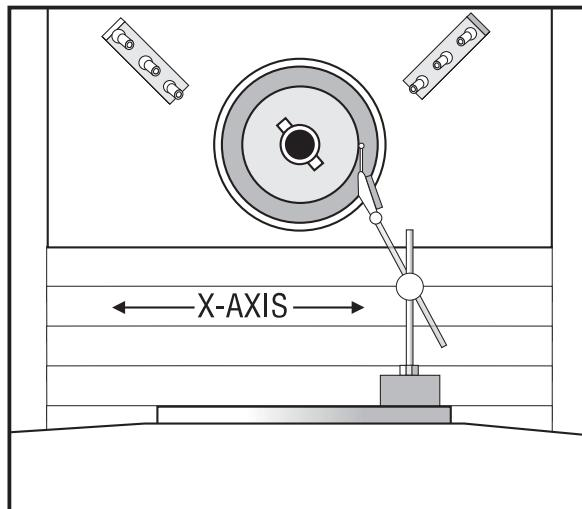

Figure 3-1. Dial indicator in position to check X-axis.
1. Set up a dial indicator and base on the mill table as shown in Fig. 3-1.
An alternate method for checking backlash is to place the dial indicator as shown in Fig. 3-1 and manually push the mill column to the left and right while listening for a 'clunk'. The dial indicator should return to zero after releasing the column.